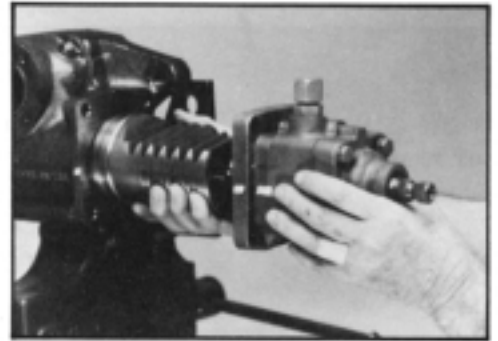

Figure 61
18. Remove worm shaft (23), upper cover (7) adaptor (18) rack piston (39) subassembly as a unit from housing (55) and place on a cloth covered work surface, with the ball return guides (35) up. SEE FIGURE 61. Remove and discard seal ring (19) and seal ring (16).